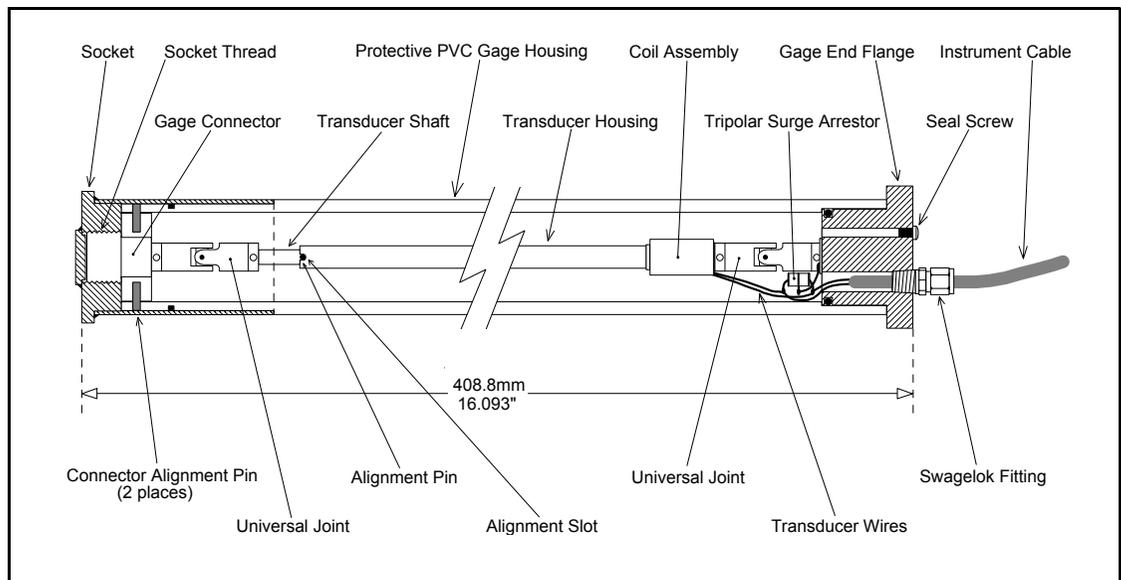

Figure 1 - Vibrating Wire Embedment Jointmeter
2. Check that the pins in the connector are in the slots in the plastic housing. Then push the jointmeter into the socket. See Figure 1.
3. Remove the seal screw from the cable end flange. See Figure 1.